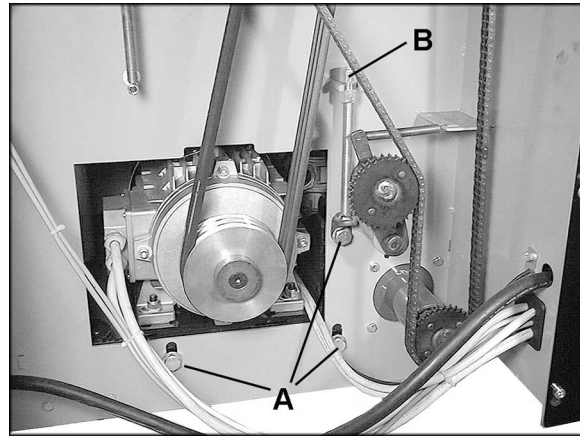

Figure 10
1. Loosen the three bolts (A, Figure 10) which hold the motor support bracket to the frame.
2. Turn the hex nuts (B, Figure 10) on the tension rod as needed.
3. When finished, tighten the three bolts (A, Figure 10).